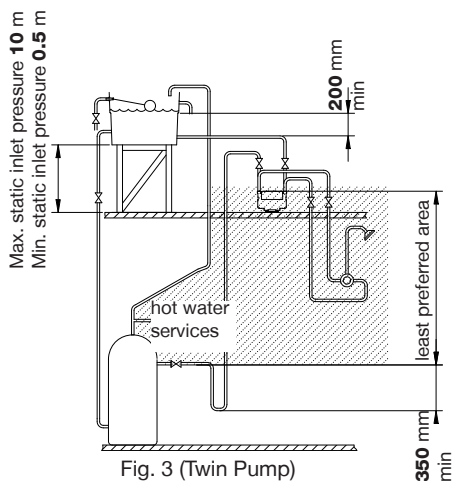

Fig. 3 (Twin Pump)
The use of a Stuart Side Entry (SE) cylinder flange, which should have the addition of an inverted loop (“U” bend) of 350 mm minimum drop before rising to the pump, located as close as possible to the cylinder wall. This will ensure the pump receives an air free supply and the cylinder vents any air up the vent pipe and not the pump feed (Figs. 3 & 4).